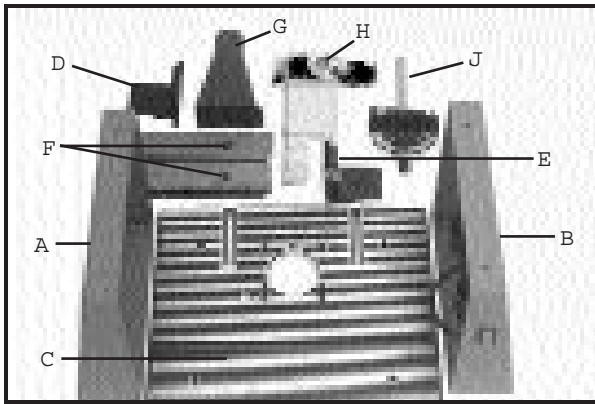

Fig. 5
1. Locate the two table legs (see Fig. 5) and stand them up parallel to each other and approximately 12" apart. The leg with the switch mounted in it should be to your right, with the switch facing you. Both legs should slant toward the outside.